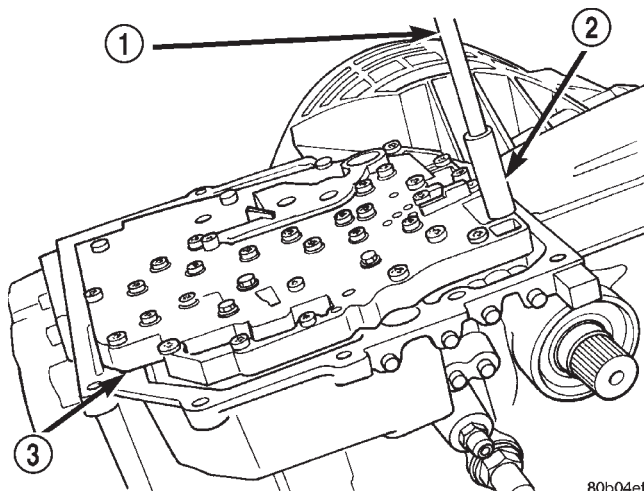

Fig. 98 Valve Body Bolts
(7) Remove valve body bolts-to-case (Fig. 98).
(2) Torque valve body to transaxle case bolts (Fig. 98) to 12 N·m (105 in. lbs.) torque.